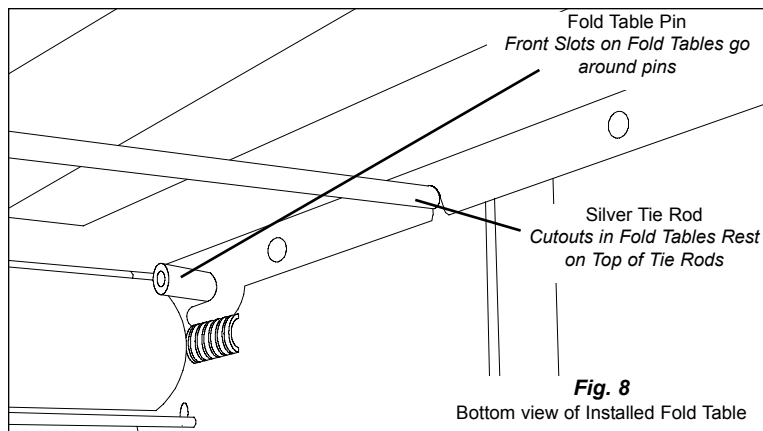

Fig. 8
- Slots on the ends of both fold tables fit onto the two (2) silver colored fold table pins inside the machine (Fig. 8).
- The fold tables should rest on top of the silver tie rods (see Fig. 8).
Exception: When doing a half fold, the back fold table should go in closed end first. (See **Half Fold** section below.) **Hint:** Many users find it easier to install the fold tables while looking at them from the **bottom** (Fig. 8).